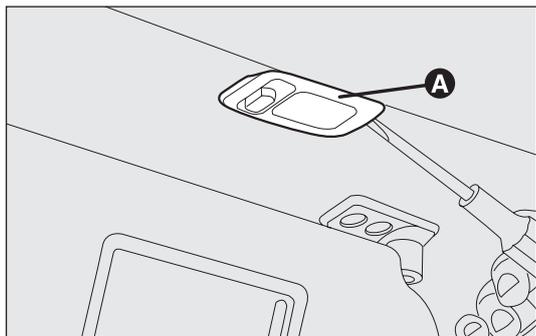

fig. 184
COURTESY LIGHT fig. 184
- remove the light A-fig. 184 by levering on the points shown by the arrow.